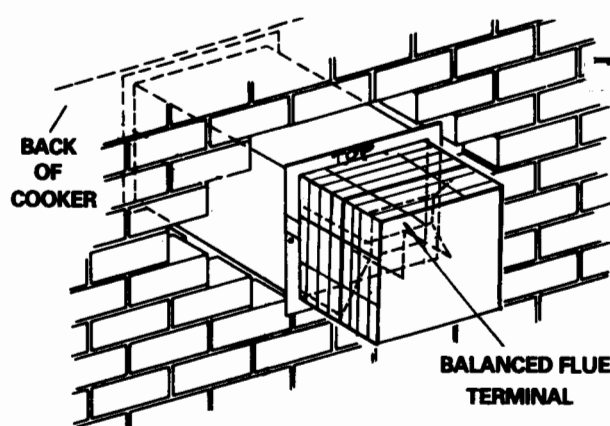

Fig. 5a – View From Outside Of Building – Balanced Flue
1. Balance Flue Assembly Set — See Fig. 5a.